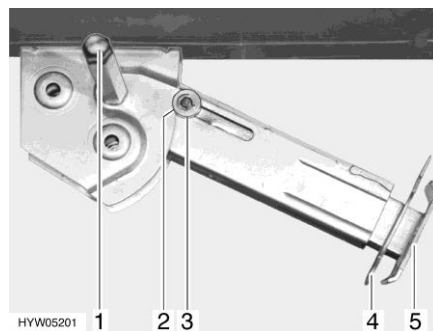

Fig. 49 Steady leg
- Place the socket spanner on the hexagon nut (Fig. 49,1) and rotate until the steady leg is in a perpendicular downward position.
- Remove the splint (Fig. 49,4) out of the support foot extension (Fig. 49,5).
- Place the socket spanner on the hexagon nut (Fig. 49,1) and rotate until the steady leg is clear of the ground.
- Push in the support foot extension (Fig. 49,5) and insert the splint (Fig. 49,4) in the drilled hole in the support foot extension.
- Rotate the hexagonal nut (Fig. 49,1) with the socket spanner until the steady leg has swung upwards and the guide disc (Fig. 49,3) has completely retracted into the notch (Fig. 49,2).